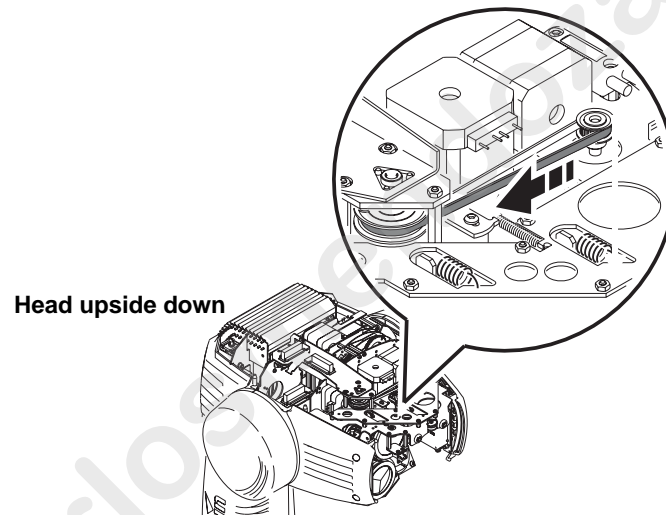

Figure 17: Moving the focus lens forward
5. Flip the head upside-down. Move the focus lens to its forward limit by pulling on its belt as shown in Figure 17.